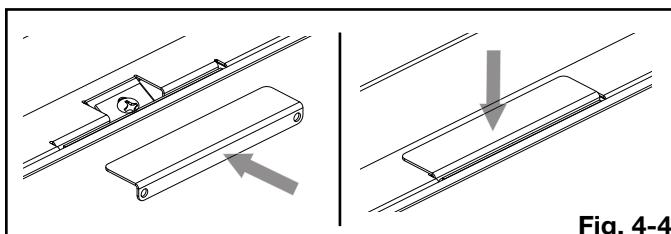

Fig. 4-4
- Cover the screw with the centre screw cover plate (supplied) (Fig. 4-4).